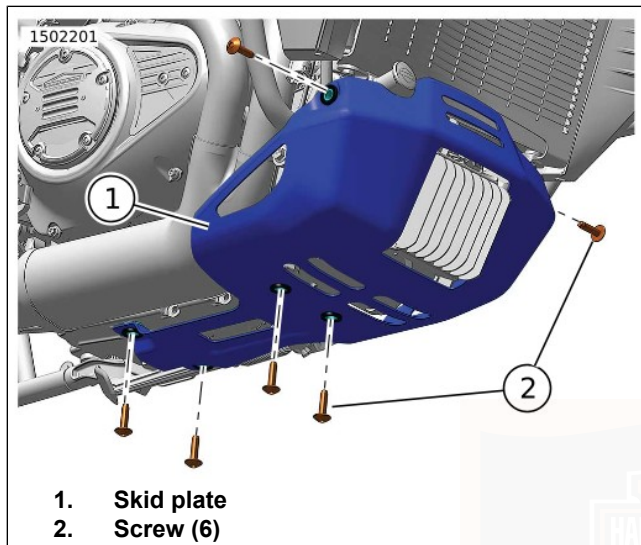

Figure 73. One Piece Skid Plate
1. Figure 73 Remove screws (2).
2. Remove skid plate (1).
2. Figure 73 Position skid plate.
3. Install screws (2). Tighten.